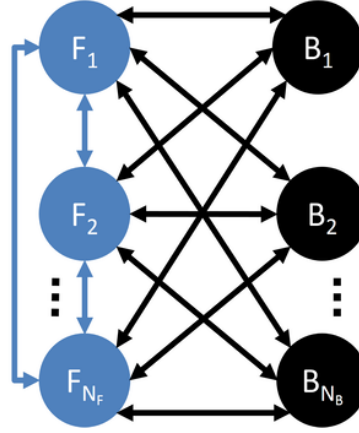

Figure 5.36: Generalized Multi-pool Exchanging Model
5. Make Virtual Object with Generalized Multi-pool (GM) Exchanging Model Properties
MRiLab v1.3 and above supports generalized multi-pool (GM) exchanging model (Figure 5.36) with flexible number of proton pools. The model consists of free proton pools, all inter-connected by the magnetization exchange pathways, and bound proton pools exchanging with the free proton pools through MT. The free proton pools represent compartments with measurable transverse magnetization (e.g., water, fat, solute proton exchange compounds), while the bound proton pools are used to model semi-solid tissue macromolecular content non-visible on standard MRI (e.g., myelin, muscle fibers, collagen). A particular configuration of the